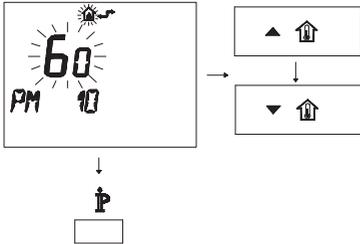

Fig. 7.39
- To modify the programmed SET, act on buttons ▲↑ or ▼↓ and wait for the number programmed to flash (Fig. 7.39).